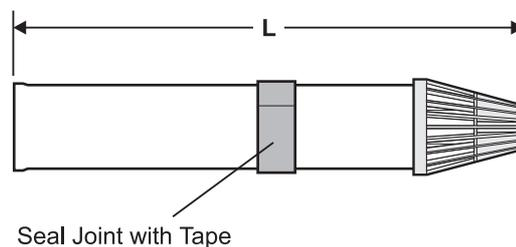

Fig. 16
2. Determine the overall length (L) of flue required, (see Fig. 16) as follows:-